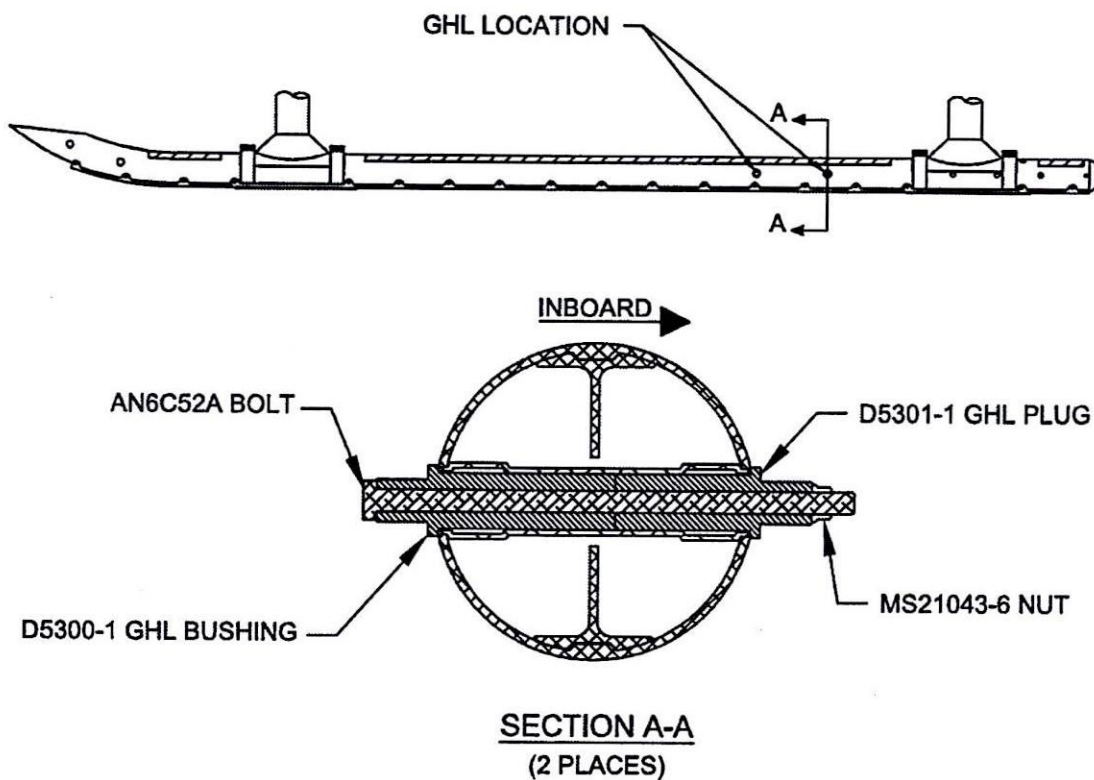

FIGURE 1 - GHL UPGRADE INSTALLATION
The purpose of this Dart Service Instruction (DSI) is to replace the ground handling lugs (D3864-1 Bushings, AN6C51A Bolts and MS21043-6 Nuts) on the D117-762-XXX Skid tubes with a structurally superior lug design (D5300-1 Bushings, D5301-1 Plugs, AN6C52A Bolts, MS21043-6 Nuts) as shown in Figure 1. The new hardware will be included in D117-762-011 @ CHG 004 and subsequent.
- 2.1 Loosely install (qty 2) D5300-1 GHL Bushing & (qty 2) D5301-1 GHL Plug wet with Proseal 890 or MIL-S-8802 Class B2 Sealant in location shown in Figure 1.
- 2.2 Install (qty 2) AN6C52A Bolts and (qty 2) MS21043-6 Nuts in accordance with Figure 1. Clean up squeezed out Proseal and apply fillet seal around D5300-1 & D5301-1.